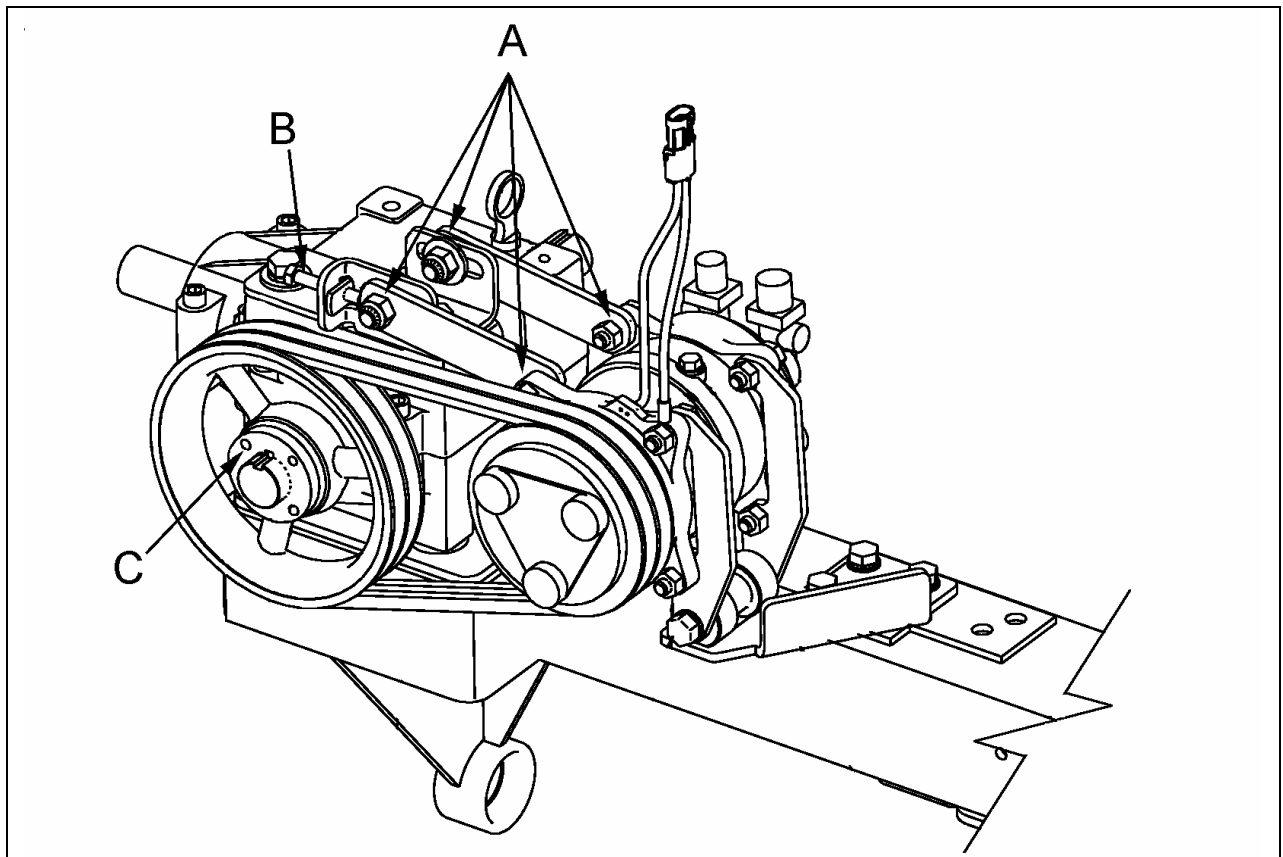

Figure 1: NEW INSTALLATION
1. On the current installation of your vehicle (similar to the new installation, see Figure 1), loosen nuts A and unscrew bolt B to relieve tension on the drive belt.
6. Using bolt B (Figure 1) move the drive belt tensioner in order to apply a tension of 38 lb on the belts (use a belt strand tension gauge). When proper tension is reached, tighten firmly nuts A.